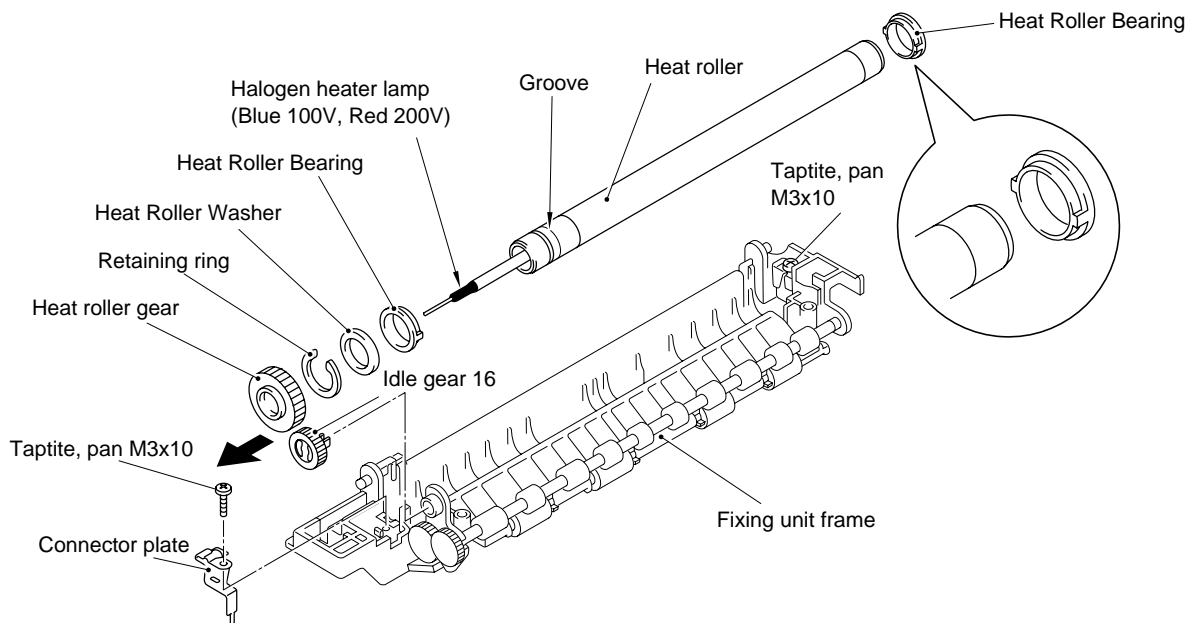

Fig. 3-22
- When reassembling the heat roller bearings, ensure that the direction of the bearing is correct referring to Fig. 3-22.
- The heat roller itself is very similar to the one for HL-1060/1070 printers. The heat roller for the MFC-P2000 / HL-P2000 printer can be distinguished by the groove on the edge of the roller. (Refer to Fig. 3-22.)